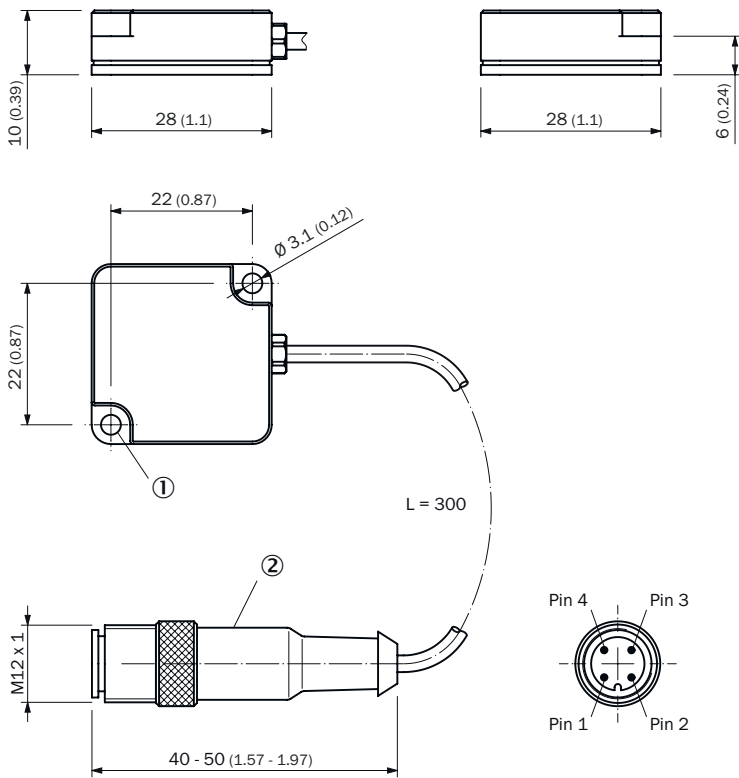

Figure 1: Dimensional drawing
1. Prepare the flat surface with two M3 threaded holes according to the **figure 1**. The screw should be 10 mm and longer so the hole should be at least 4mm deep.